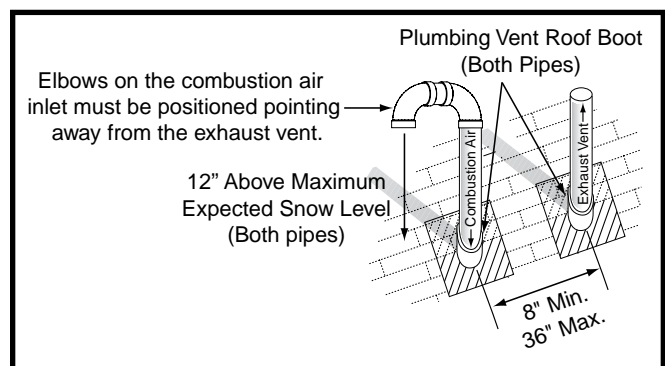

Figure 10. Vertical Vent Termination
- The termination clearances shown in Figure 10 (page 12) are maintained.